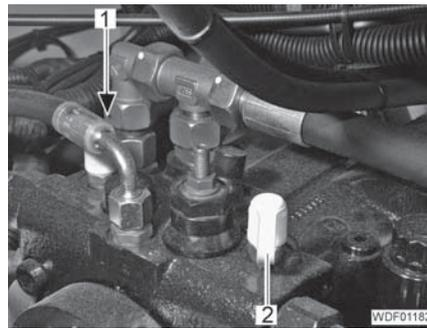

Fig. 14 Test connections
- Connect 1 test pressure gauge to each of the test connections "M_A" (Fig. 14,1) and "M_B" (Fig. 14,2).